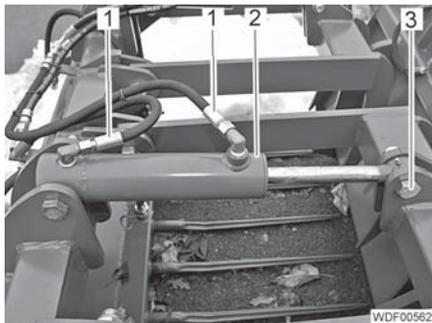

Fig. 472 Hydraulic cylinder of the fork & grab
- Unscrew and close off the 2 hydraulic lines (Fig. 472,1).
- Unscrew the 2 bolts (Fig. 472,3).
- Remove the hydraulic cylinder (Fig. 472,2).
- Screw in and tighten 2 bolts (Fig. 472,3).
- Screw the 2 hydraulic lines (Fig. 472,1) onto the connections on the hydraulic cylinder and tighten.